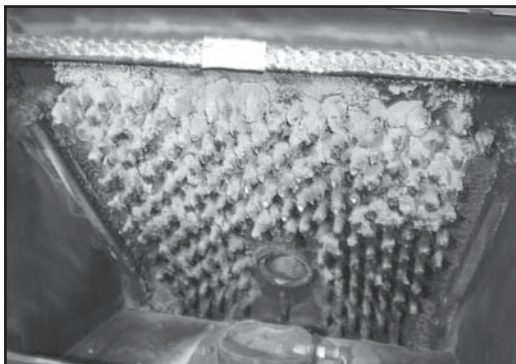

Figure 17.1 - Example of a dirty heat exchanger
2. Vacuum the ash from the heat exchanger with an upholstery brush to remove the majority of the ash. Be sure to vacuum the back of the baffle also. Inspect the drop tube and remove any residue build-up in the drop tube. **Figure 17.1**.